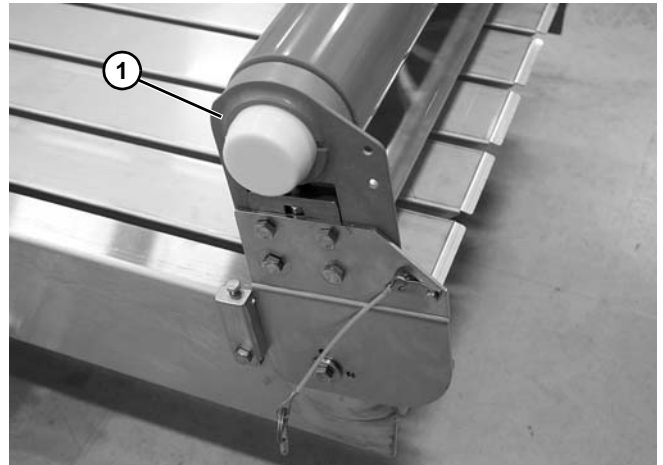

Figure 45
5. Rotate idler end (**Figure 45, item 1**) upward as shown.